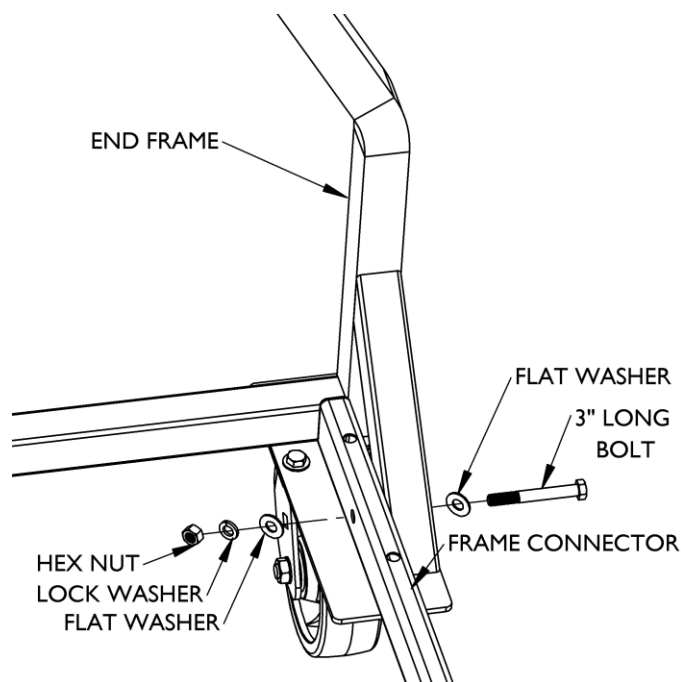
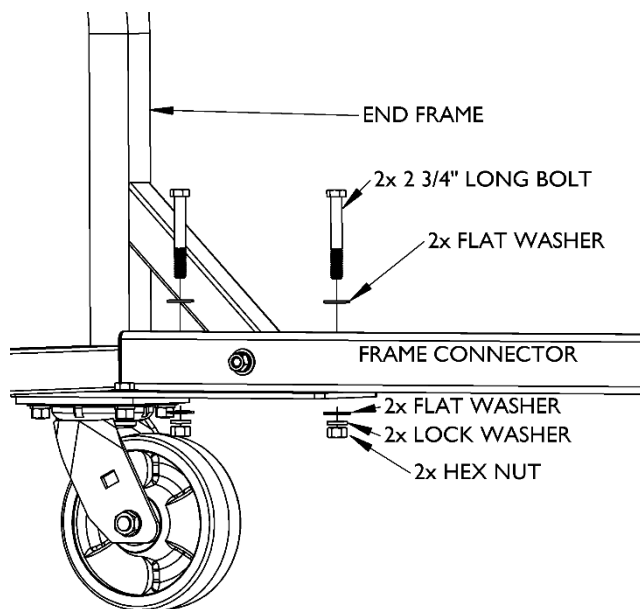

Figure 2
Figure 3
3. Hand-fasten two frame connector tubes to each end frame as shown in Figure 2 and Figure 3.